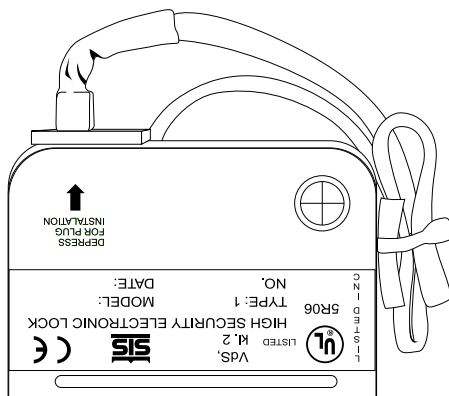

Figure 10
5. Secure any cables with wire tie, making sure to keep out of the way of all moving parts (Figure 10).